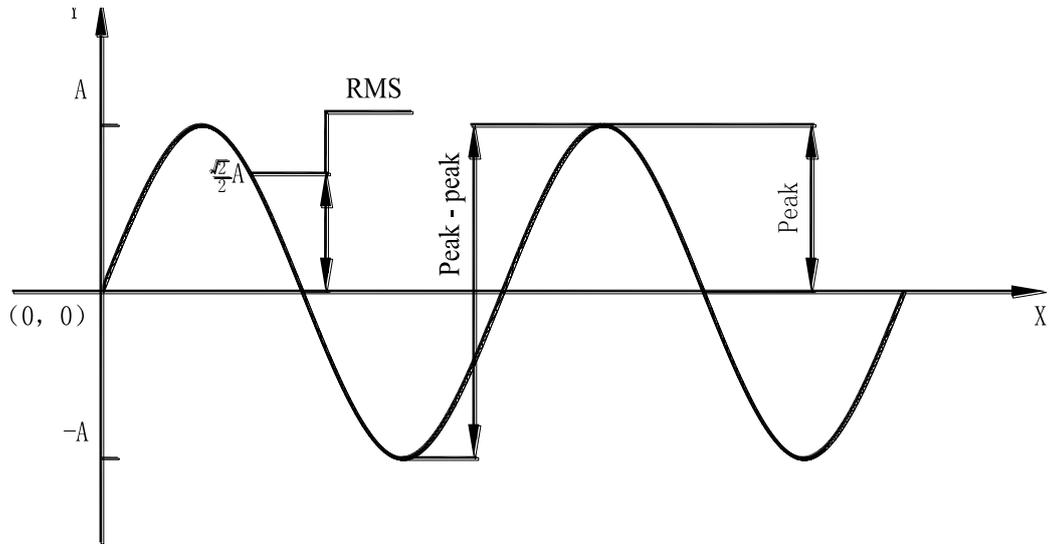

Figure 2-1
10. RMS, peak values and peak-peak values (see Figure 2-1)